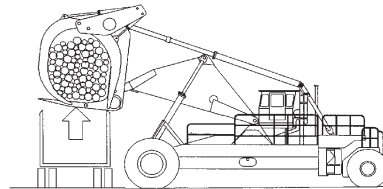

Fig. 5-8
5. Hoist the load clear of the truck or trailer and tilt the carriage back slightly to bring the load center closer to the drive wheel axle. See Fig. 5-8.